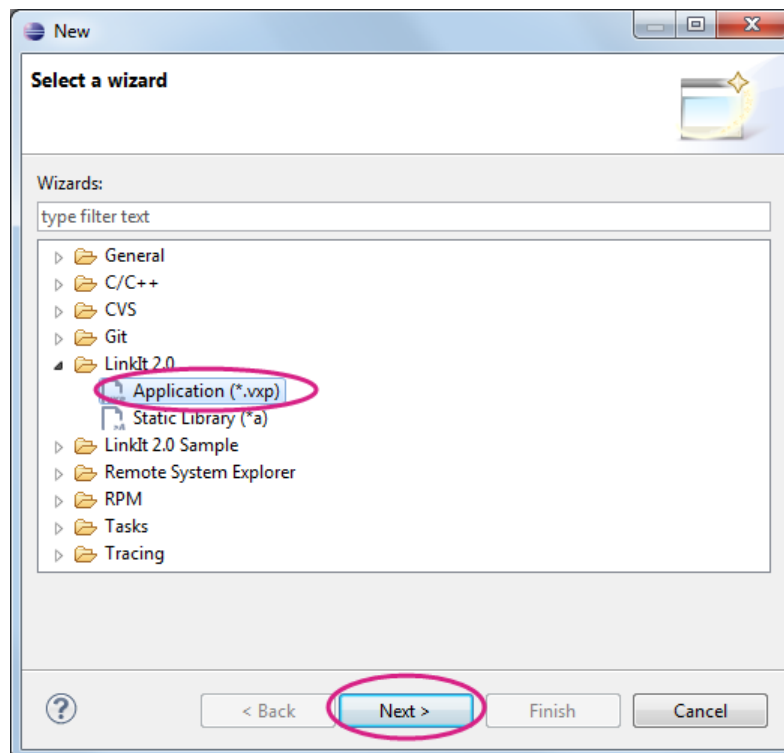

Figure 17 Selecting the LinkIt 2.0 application
- 2) The **New** window displays. Expand the **LinkIt 2.0** folder, select **Application (*.vxp)** and click **Next** as shown in Figure 17.